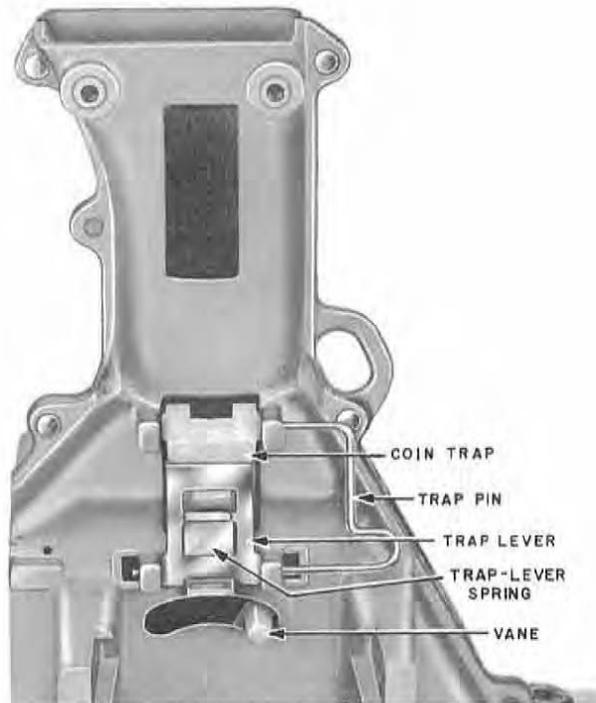

Fig. 11 — Placing Trap-Lever Pin on Hopper
- (3) Place trap lever on trap pin (Fig. 11).
- (4) Push pin through holes in coin trap, trap lever, and hopper.